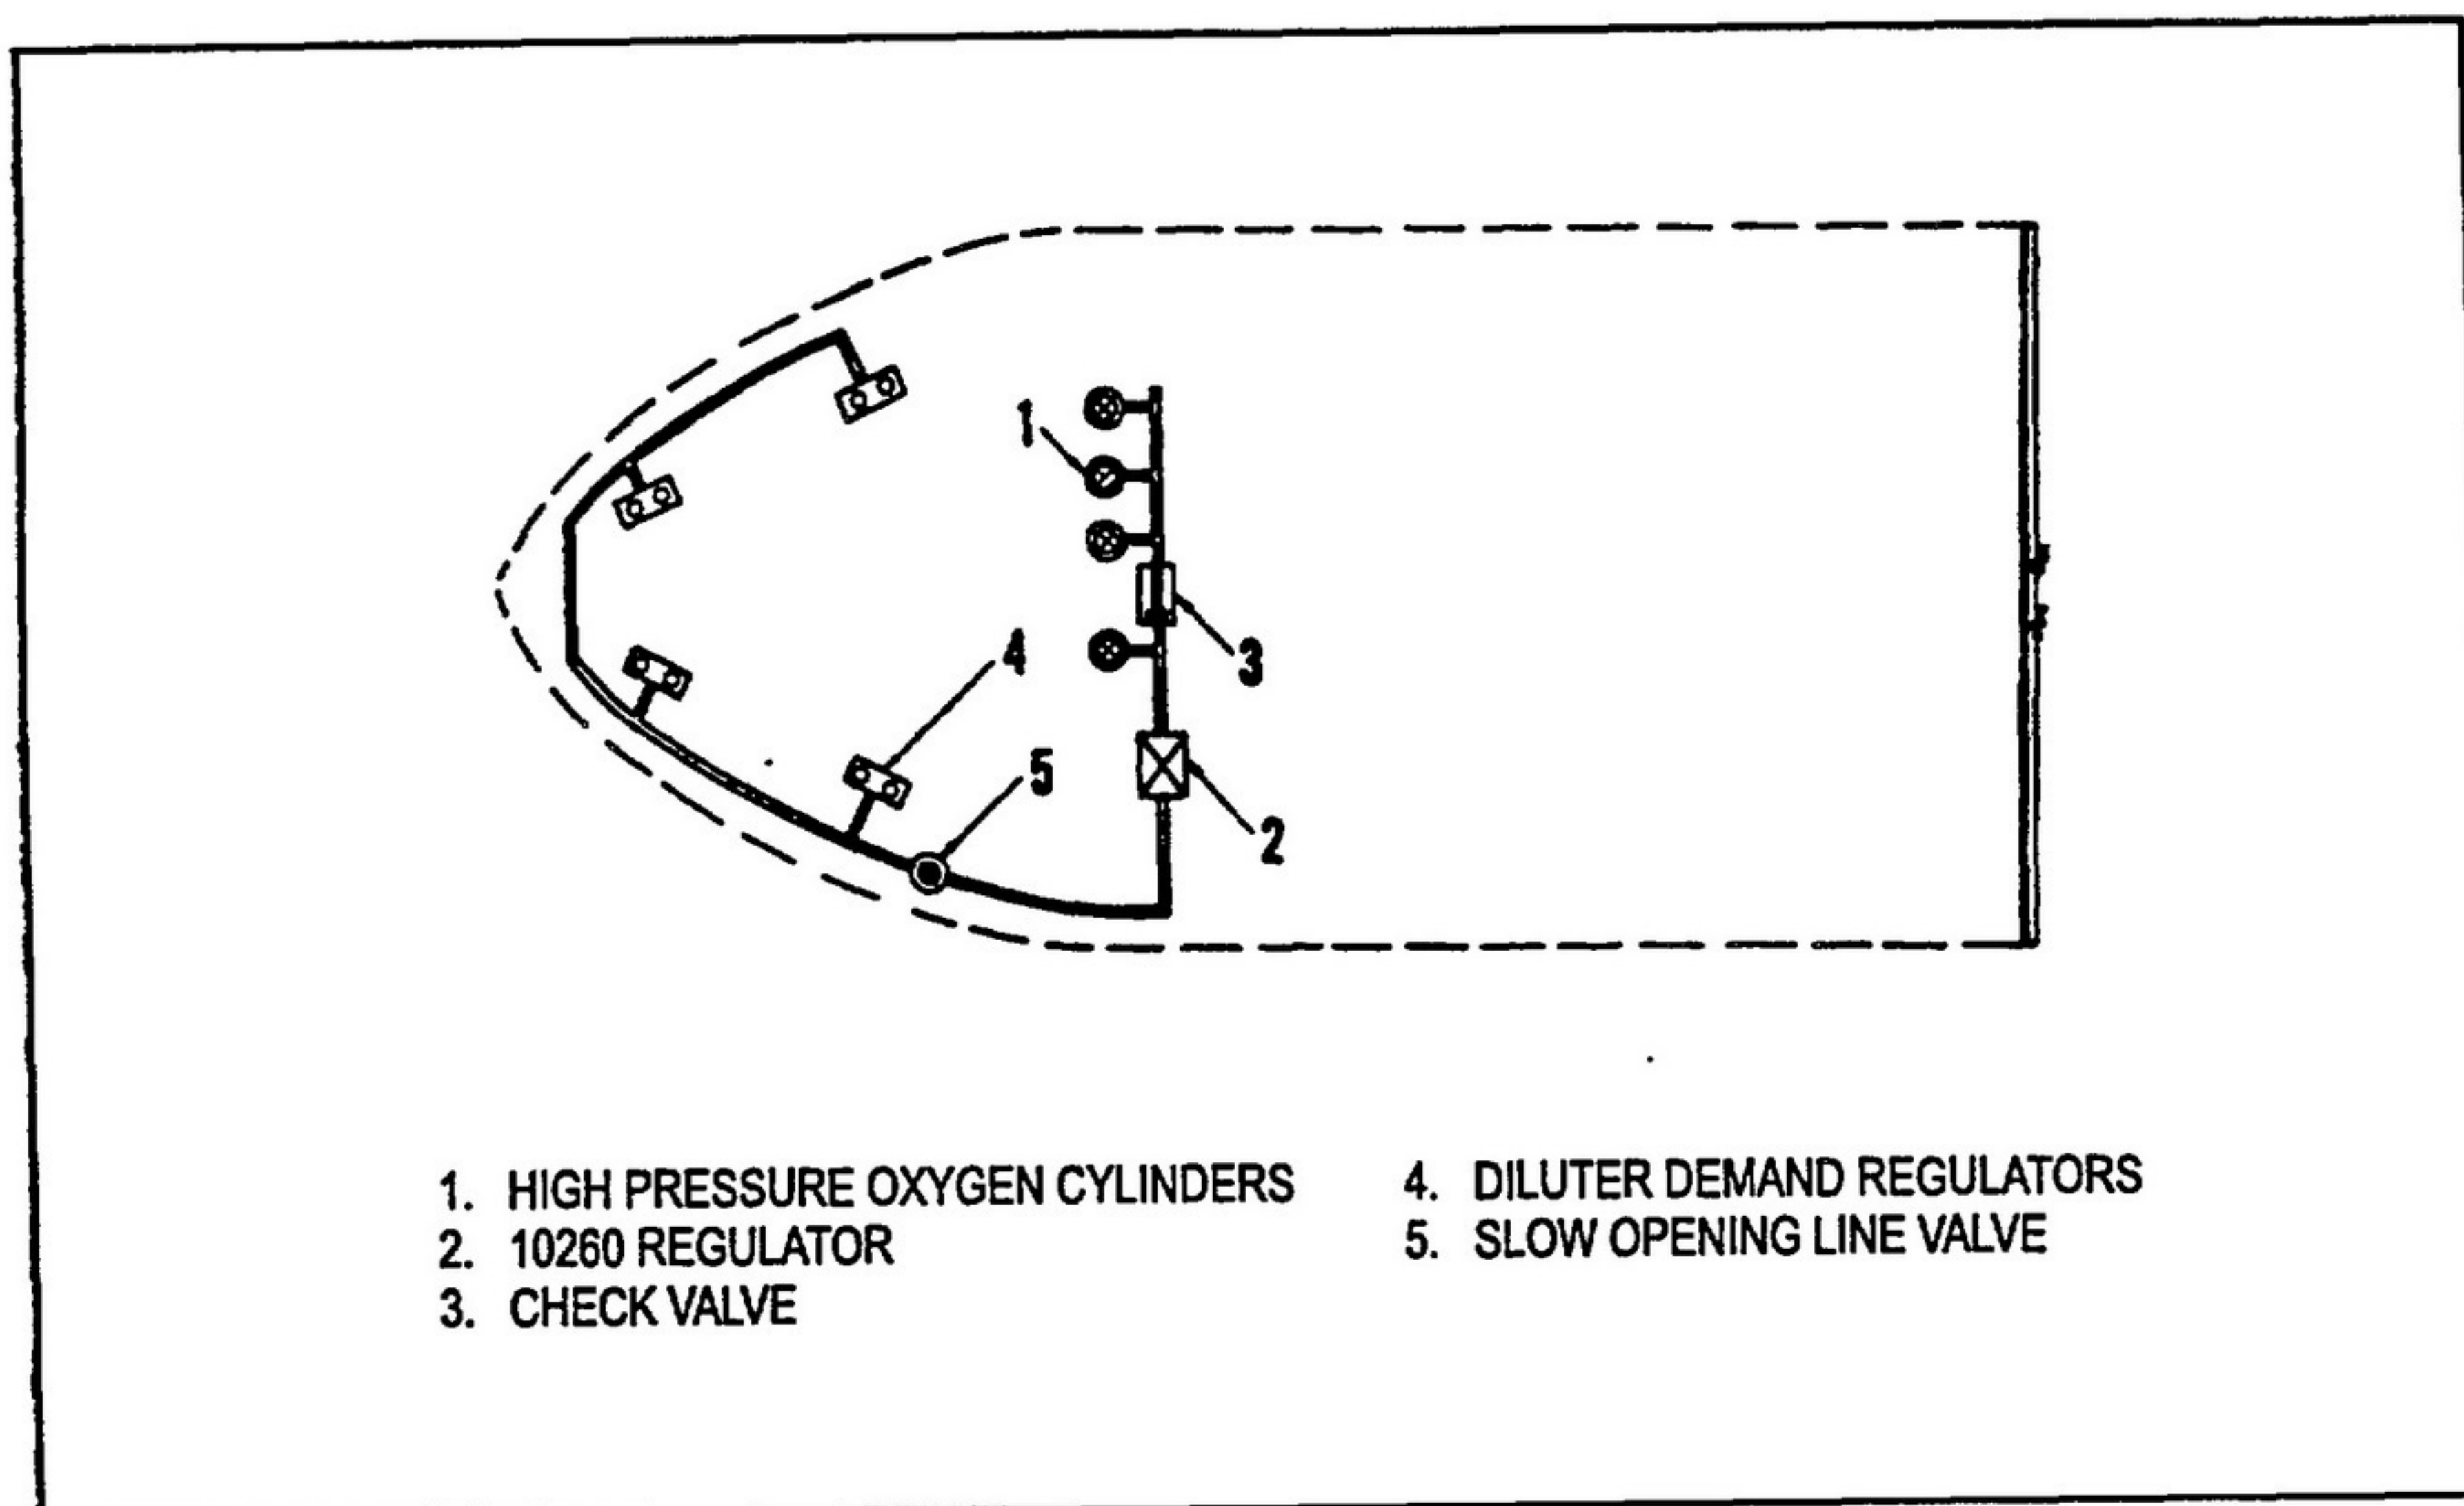

Figure 2: Typical Installation
A typical installation of the 10260 Series Oxygen Regulator in a pressurized control cabin is shown in Figure 2. In this application, an oxygen source consisting of high pressure oxygen cylinders (1) is connected to the inlet port of regulator (2) through check valve (3). The oxygen supply pressure is reduced by the 10260 Series Regulator. The reduced pressure is routed to the inlet port of diluter demand regulators (4) when valve (5) is open. Supply pressure to the diluter demand regulators is maintained at a pre-determined level by the 10260 Series Oxygen Regulator Assembly.